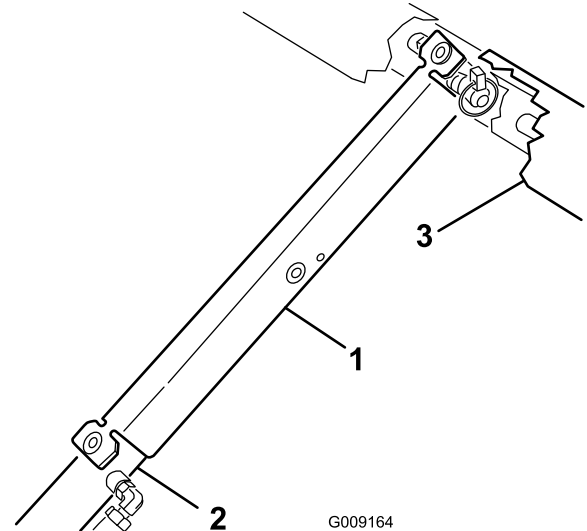

Figure 7
7. Push the bed support onto the cylinder rod, making sure the support end tabs rest on the end of cylinder barrel and on the cylinder rod end (Figure 7).